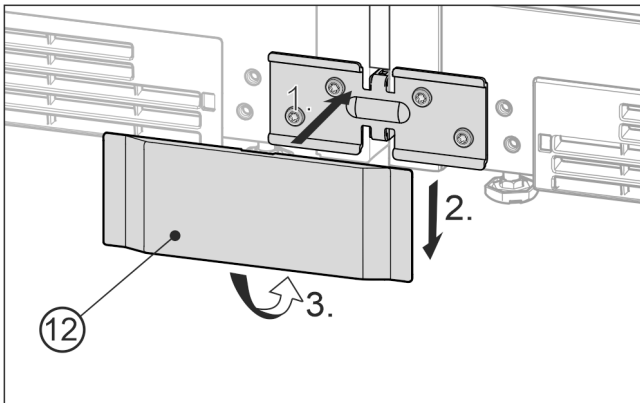

Fig. 24 Example illustration
- Place the bottom cover Fig. 24 (12) onto the bracket from the front Fig. 24 (1), slide it down Fig. 24 (2) and snap it in at the bottom Fig. 24 (3).